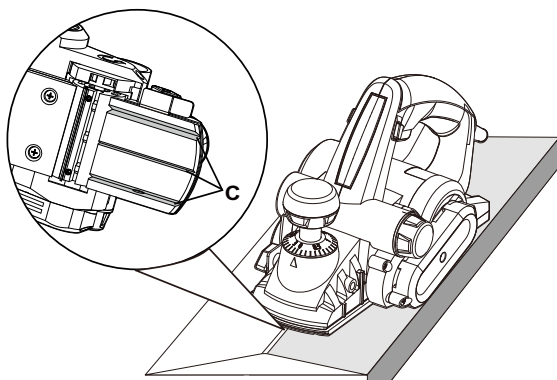

Figure 8
5. EDGE CHAMFERING (SEE FIG. 8)